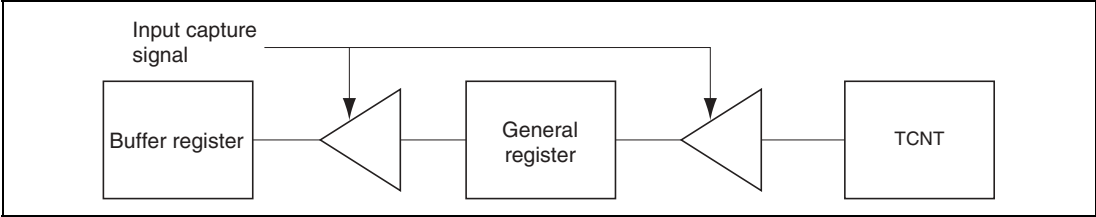

Figure 13.36 Input Capture Buffer Operation
- This operation is illustrated in figure 13.36.